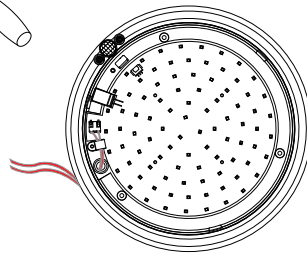

Fig.3
- Step5 Connect the cable to the lamp through the cable entry openings.wire size : 0.2-0.75mm²(as Fig.3)